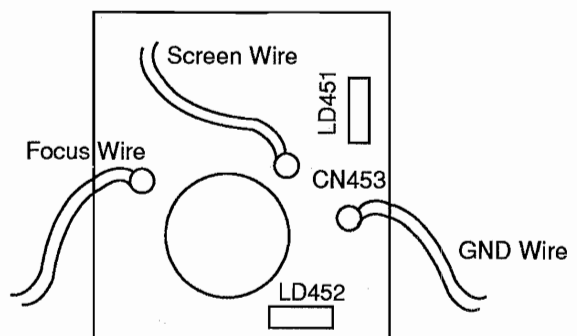

Fig. CAB6
5. Re: Fig. CAB4 on Page 1-18 and Fig. CAB6 on Page 1-20
6. Re: Fig. CAB4 on Page 1-18 and Fig. CAB6 on Page 1-20
- 2) Lift the control door as shown by the arrow (A) and remove this control door by pushing its base part close to the hinge toward the front side of the unit.
7. Re: Fig. CAB5 on Page 1-19 and Fig. CAB6 on Page 1-20